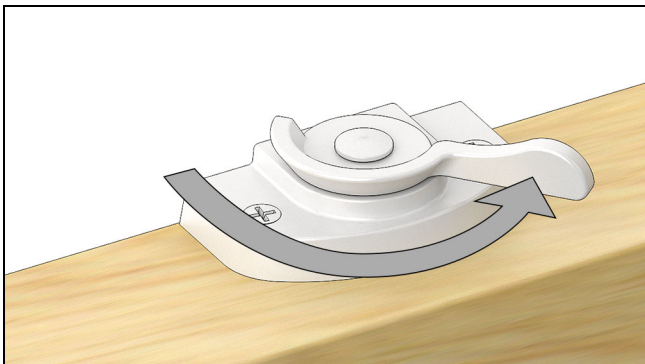

Figure 69
1. Remove bottom sash. Rotate lock handle to 135° position to unlock. See Figure 69.